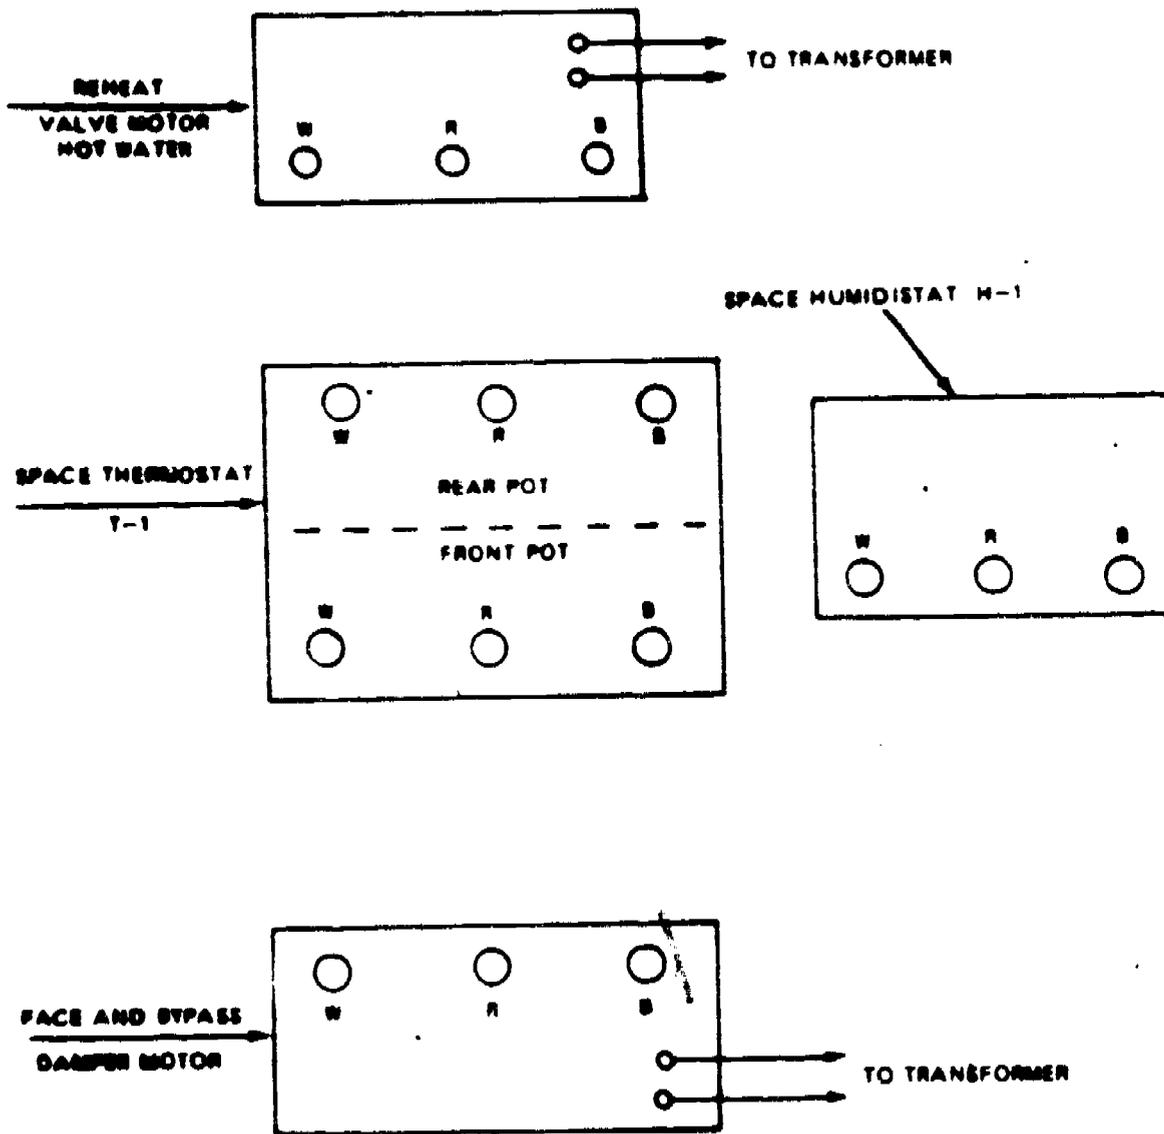

Figure 7. Complete Temperature and High Limit Humidity Control
**INSTRUCTIONS:** Using the diagram in figure 7, schematically wire the humidity control circuit.